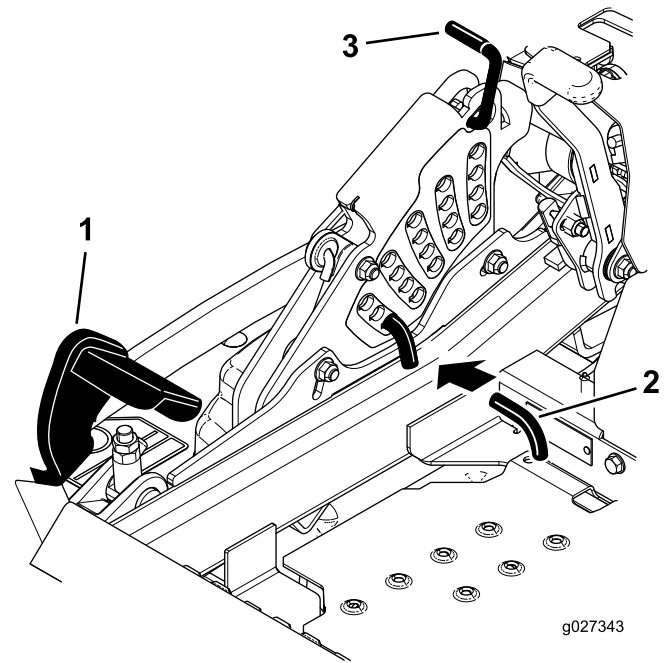

Figure 89
5. Push the deck-lift pedal all the way forward and the deck will latch at the 14 cm (5-1/2 inches) transport position (Figure 89).